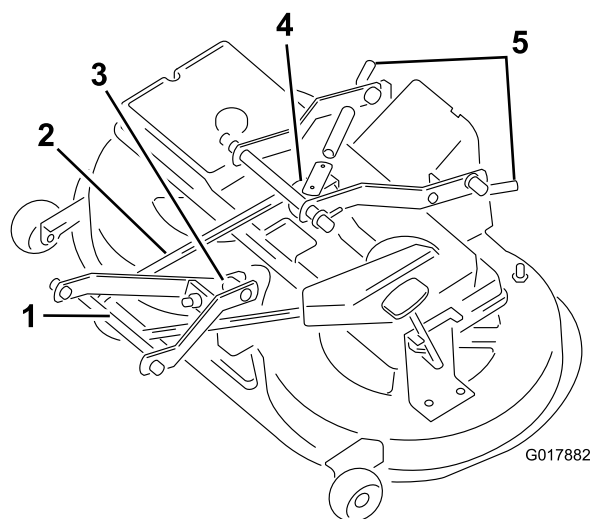

Figure 43
9. Pull the idler arm assembly inward and remove the V-belt from the pulley (Figure 43).
11. Remove the pin between the front arm linkage and the mower housing (Figure 43).
12. Remove the V-belt from the engine pulley (Figure 43).